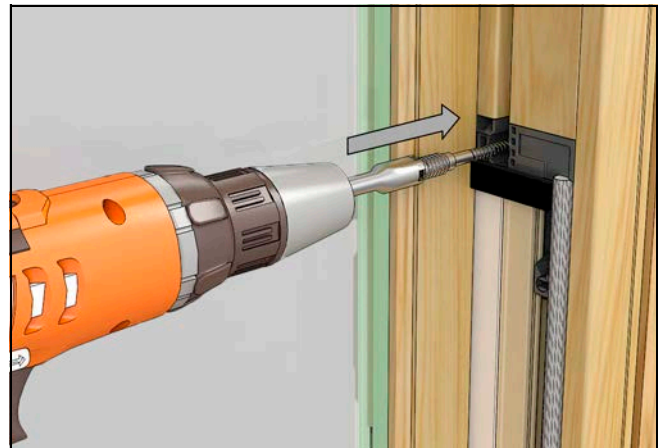

Figure 31
2. Using GRK's Top Star™ Crown and T15 Star bit system install the Top Star™ fastener into the jamb/jamb receiver. Using Torx bit, adjust the jamb position as needed. See Figure 31.